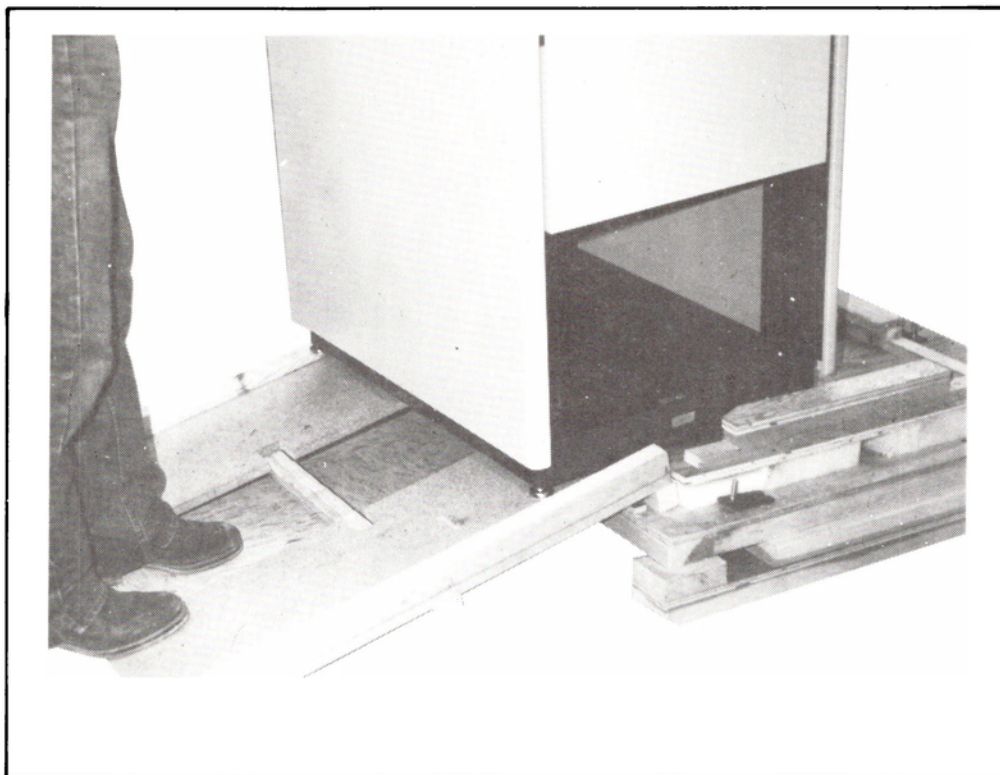

Figure 2-5. Removing The Cabinet From The Crate
5. Place the ramp on the edge of the crate, and remove the cabinet from the crate as shown in Figure 2-5.